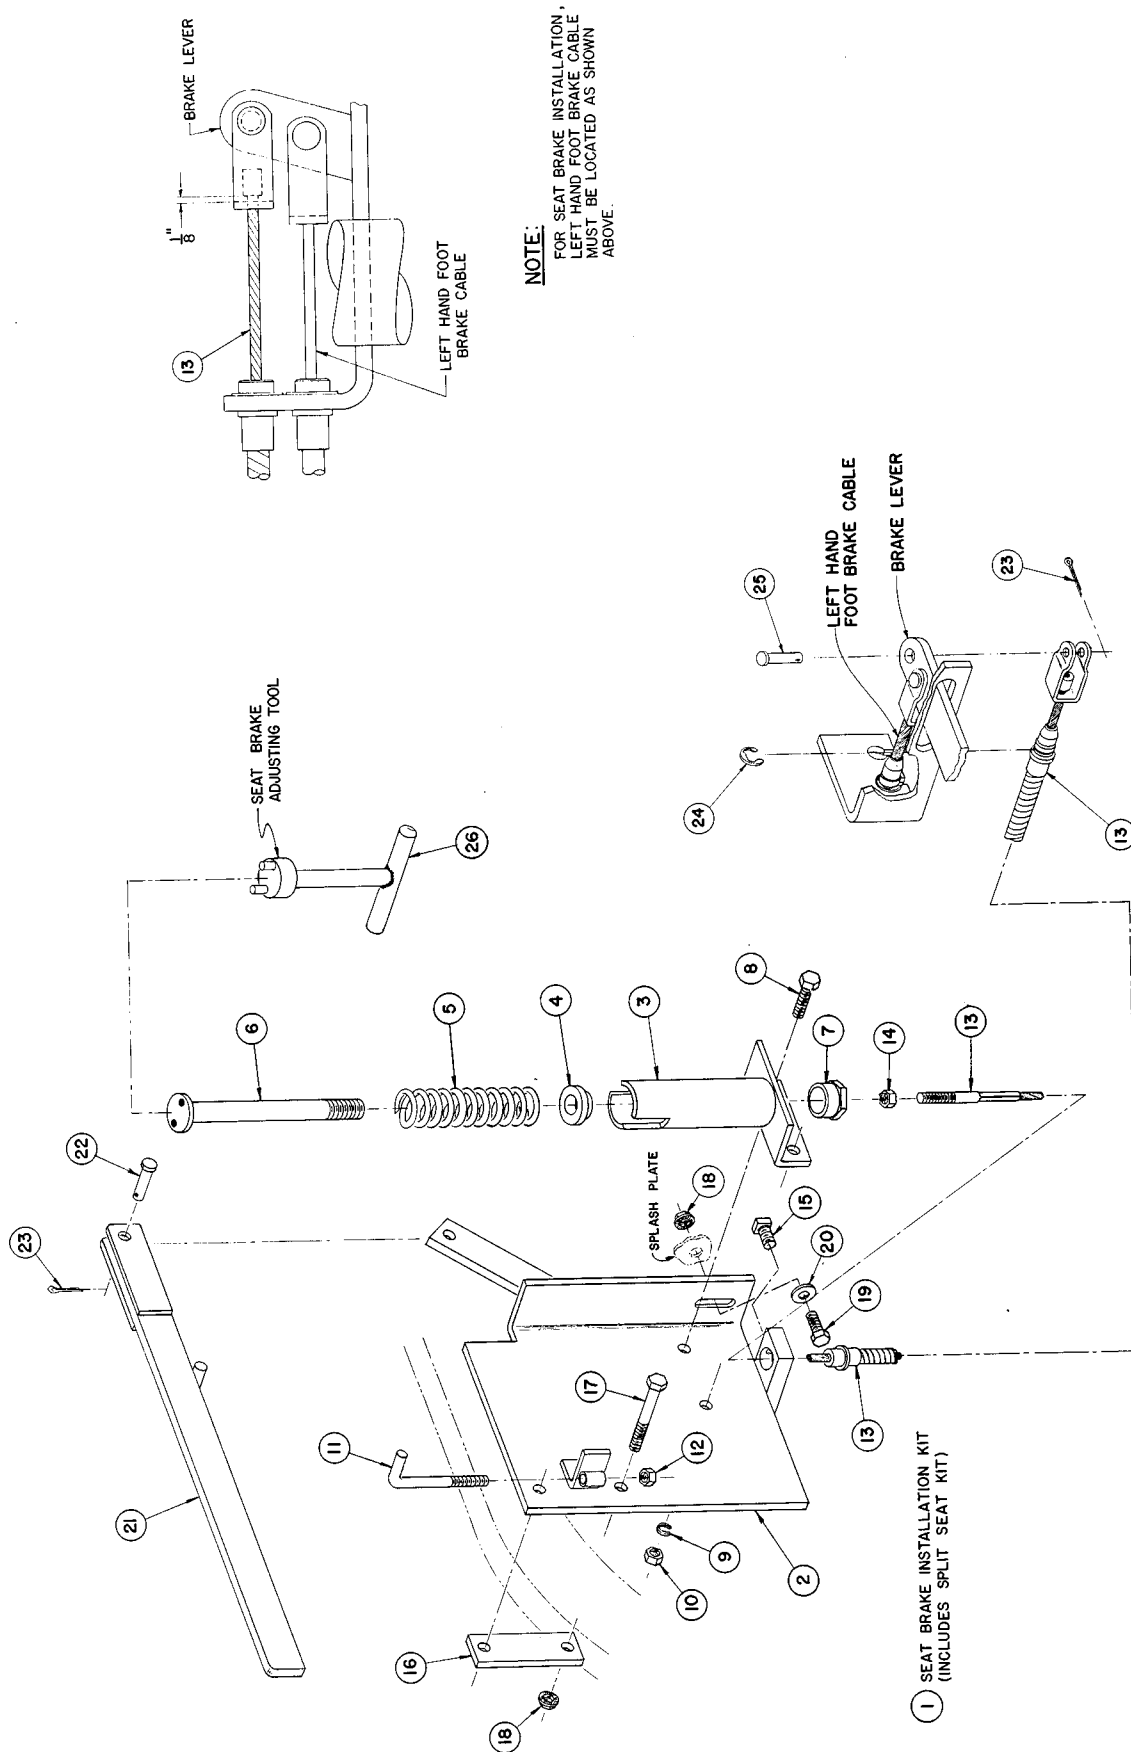

FIG. 10 C
**SEAT BRAKE ADJUSTMENT** (See Fig. 10 C)
#### Cable Removal: (See Fig. 10 C)
#### Spring Guide Pin and Bushing Removal: (See Fig. 10 C)